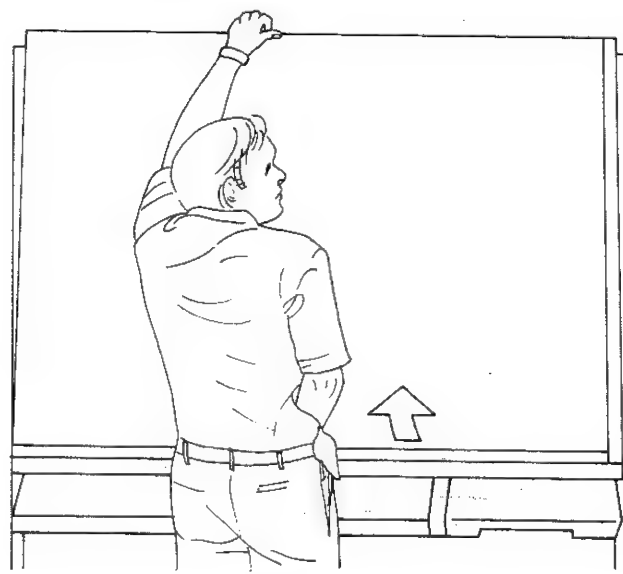

Figure 23
- (3) Remove the nine screws at the top of the board.
- (4) Pull out the bottom of a board unit. (Figure 23)